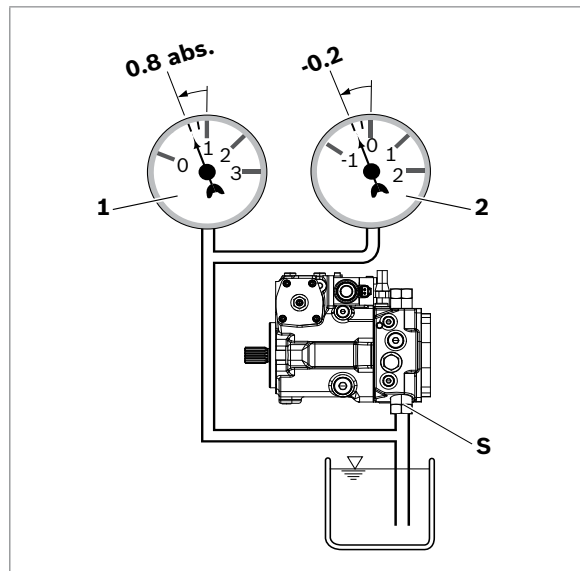

Fig. 7: Suction pressure
- ▶ Make sure that a minimum suction pressure of 0.8 bar absolute is present at port **S** (0.5 bar absolute for cold start) during operation in all installation positions and installation locations for the axial piston pump, see Fig. 7. See data sheet for pressure values.